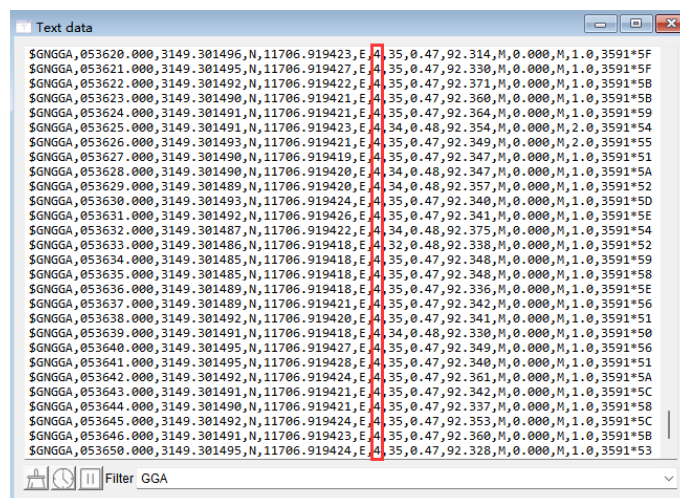

Figure 12: View <Quality> Parameter
Step 10 You can judge whether the module has entered RTK mode by outputting **GGA** message as shown in Figure 12: View <Quality> Parameter. GGA quality indicator in below can range from 0 to 5 for LG290P (03). If the quality indicator is 1, it means standalone GNSS mode and the module does not enter differential mode. When the module successfully receives the RTCM correction data, the quality indicator should switch to 4 or 5. Quality indicator of 4 means the RTK achieved ambiguity fixed results with cm accuracy.